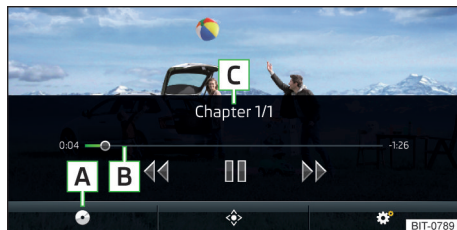

Fig. 201
Main menu » Fig. 201
Forward / rewind the video at the desired time	Tapping the playback timeline B » Fig. 201 on page 157
- to **display** the DVD menu in the Video DVD main menu, tap on the function surface ⬢ » Fig. 201 on page 157 .